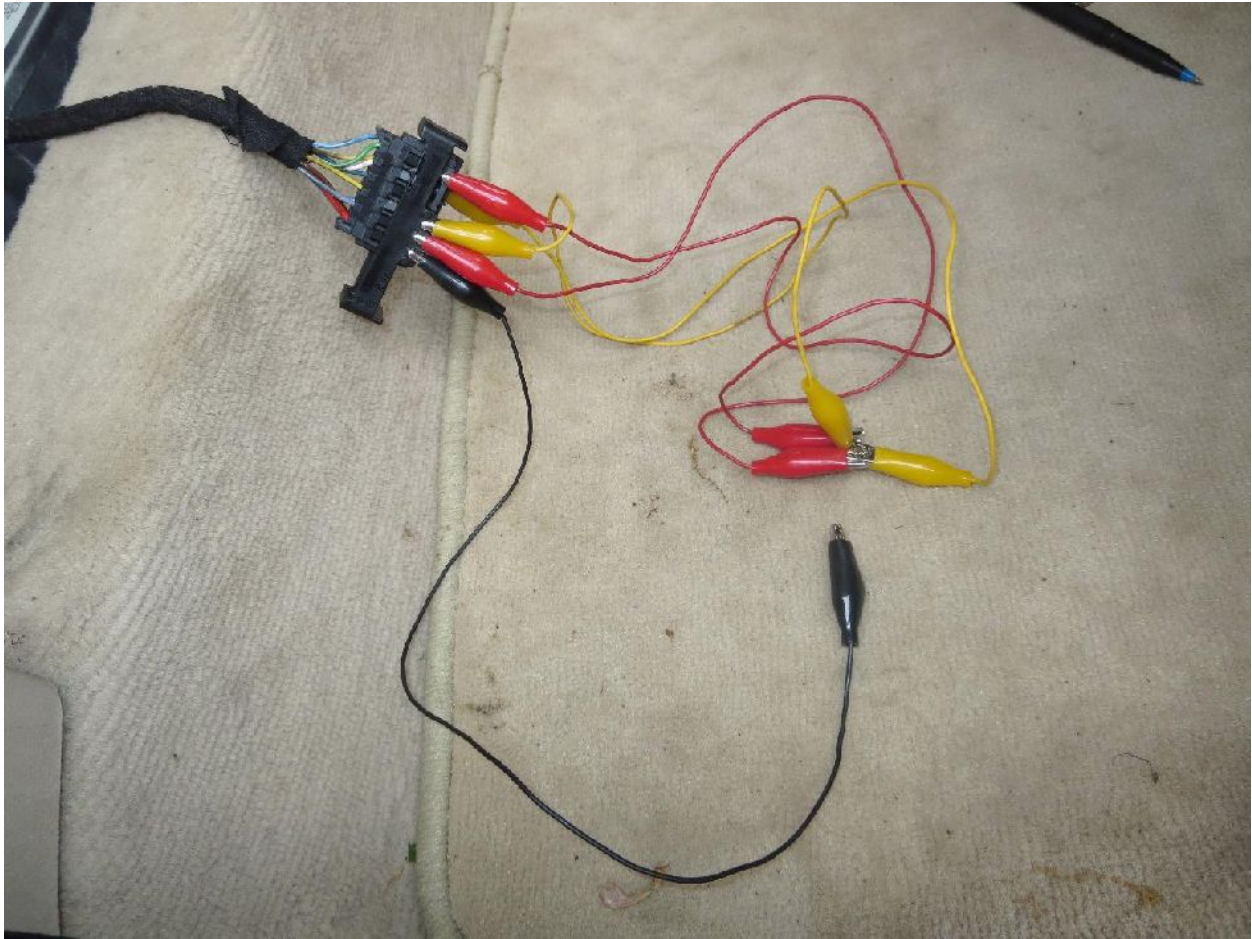

Figure 3: The completed setup – ready to touch +12 vdc (the black lead here) to the solenoid block (red/yellow leads)
Step 7: Here's where it opens. You should now have something that looks like what is shown in Figure 3. Make sure all the clips are still in their respective pins. With your friend ready to catch the top, momentarily touch the power lead from pin 12 to the leads of the solenoid bundle. You will here the pump run and the rear bow and latch should pop open. DO NOT keep these connected for more than 5 seconds or the pump might be damaged.